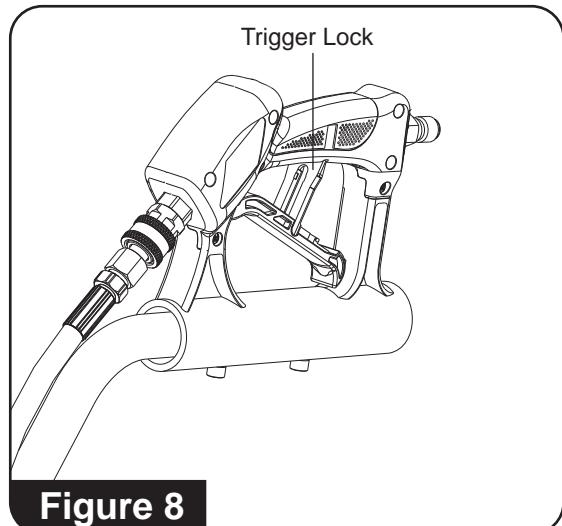

Figure 8
1. Lock the trigger gun on the surface cleaner by moving the trigger lock to a 90° angle so it rests against the handle grip (**See Figure 8**).